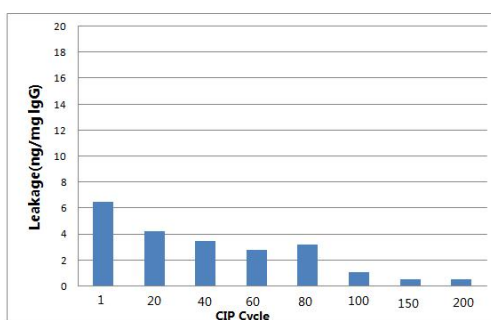

Figure 2. The leakage of the **Protein At Beads 4FF** ligand over numerous CIP cycles.
**Protein At Beads 4FF** is an affinity chromatography medium designed for the purification of monoclonal antibody, polyclonal antibody and Fc tag fusion protein. The characteristics of **Protein At Beads 4FF** are summarized in Table 1. Alkali-tolerant protein A (protein At) is obtained by gene recombination technology on the base of natural protein A. **Protein At Beads 4FF** retains the capacity after 200 times repeated CIP cycles with 0.1M NaOH, approximately 80% of the initial capacity with 0.5M NaOH after 100 times repeated CIP cycles, see Figure 1. Protein At is directional immobilized to the agarose beads. The level of leakage of the ligand during elution is very low (less than 10ng ligand/mg antiodody, see Figure 2).